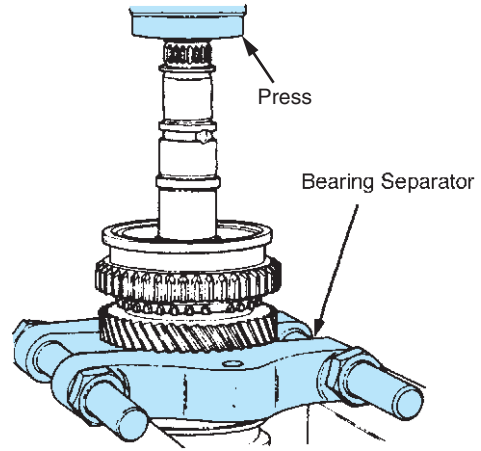

FIGURE 8-63 The bearing separator supports the speed gear, which, in turn, supports the synchronizer assembly as the mainshaft is pressed out of them.
2. Remove the blocker ring and the synchronizer hub retaining ring; install a bearing separator onto the gear next to the synchronizer assembly; and press the shaft out of the gear, blocker ring, and synchronizer assembly (Figure 8-63).